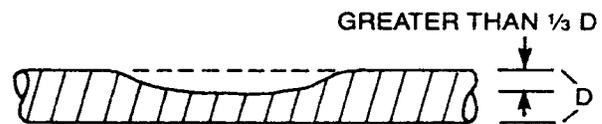

Figure: 5-2 – Repair Necessary. Significant Damage to the Tubing Due to Impact or Crushing
- a. The tubing has been significantly crushed or dented (Figure: 5-2).